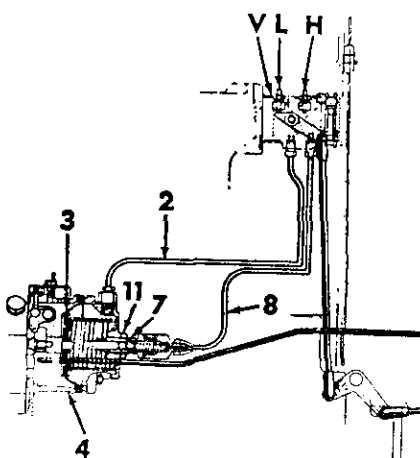

Fig. 58—Schematic view showing governor assembly, venturi and the connecting pipes used on early B-275 tractors.
Loosen the idling valve locknut (11—Fig. 58), remove pitot line connections and screw idle valve (7) out until the stem is completely clear of the diaphragm. Tighten locknut. Start engine and run same at high idle for approximately 15 minutes and when both the temperature and rpm have stabilized, check the idle valve for leakage by placing finger over end of valve. If the engine rpm decreases, the valve is leaking and same should be removed, cleaned and inspected to determine the cause.
To renew the governor diaphragm, disconnect pitot line (8—Fig. 58) from governor housing cover, then remove governor housing cover and spring. Pull diaphragm rim from its recess and pull as far from governor housing as possible. Push the control rod as far back as it will go, then turn diaphragm 90 degrees, slide toward top of housing and remove.